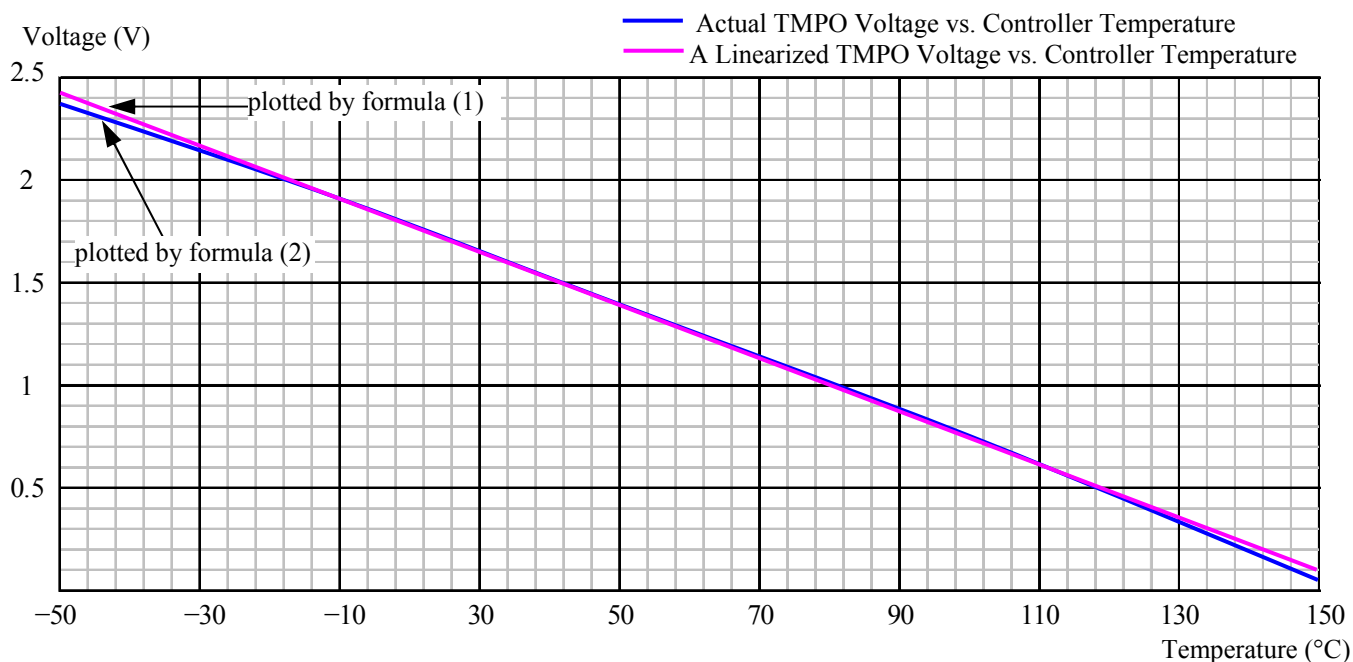

Figure 8. Controller Internal Temperature vs. TMPO Voltage
Within the most commonly used temperature range of between 0 C to 100 C, the maximum error occurs at about 1.5V, at which the temperature error between the calculated data by using the formula (1) and the approximated data obtained by using the linear equation (2) is about 0.4 C, with the linear data being a little lower. The curves of the 2 sets of the data are plotted in Figure 8.
Within the most commonly used temperature range of between 0°C to 100°C, the maximum error occurs at about 1.5V, at which the temperature error between the calculated data by using the formula (1) and the approximated data obtained by using the linear equation (2) is about 0.4°C, with the linear data being a little lower. The curves of the 2 sets of the data are plotted in Figure 8.